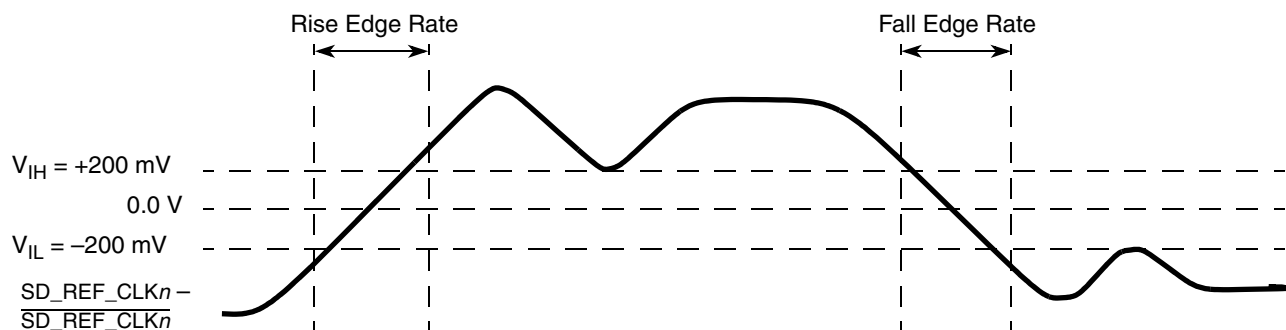

Figure 40. Differential measurement points for rise and fall time
waveform is not referenced to ground. See Figure 40, “Differential measurement points for rise and fall time,” as an example for differential waveform.
- Measured from -200 mV to +200 mV on the differential waveform (derived from SD_REF_CLK n minus $\overline{\text{SD_REF_CLK}}_n$). The signal must be monotonic through the measurement region for rise and fall time. The 400 mV measurement window is centered on the differential zero crossing. See Figure 40.